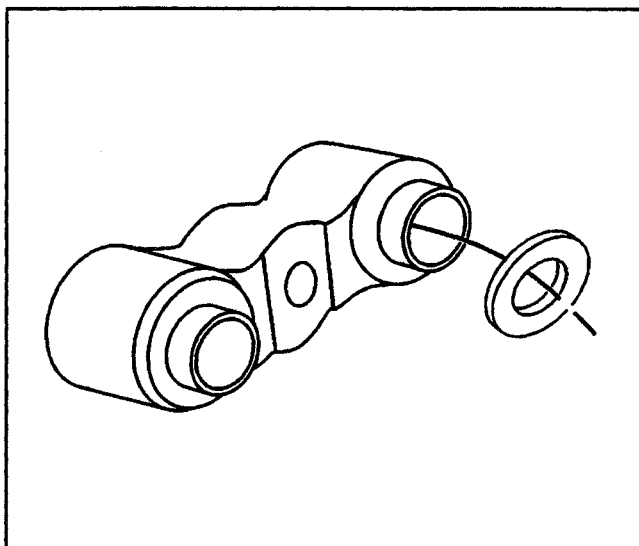

Figure 28—Sealing Washer Installation (1 of 2)
1. Install sealing washer onto pilots of suction/discharge block fitting. Washers must "bottom" against surface of block fitting (Figure 28).